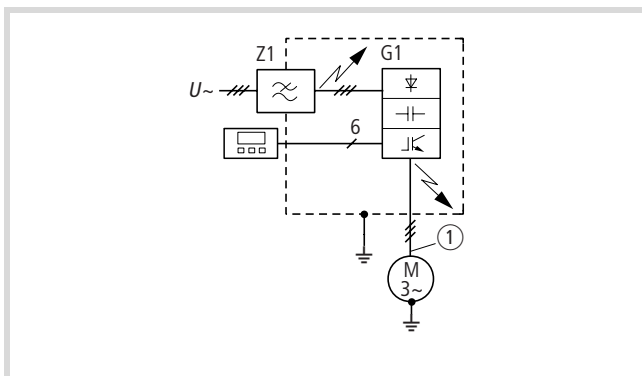

Figure 9: DV5 and radio interference filter in a sealed enclosure
① Screened motor cable
- Ground the metallic enclosure via a cable which should be as short as possible (→ Fig. 9).